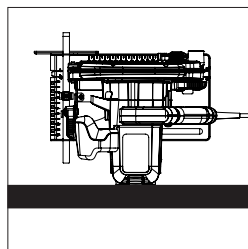

Fig. 2
**Note:** All machines can, with care, be balanced on the flat end of the motor housing casing, (**Fig. 2**) making access to the blade and blade fixings very convenient.